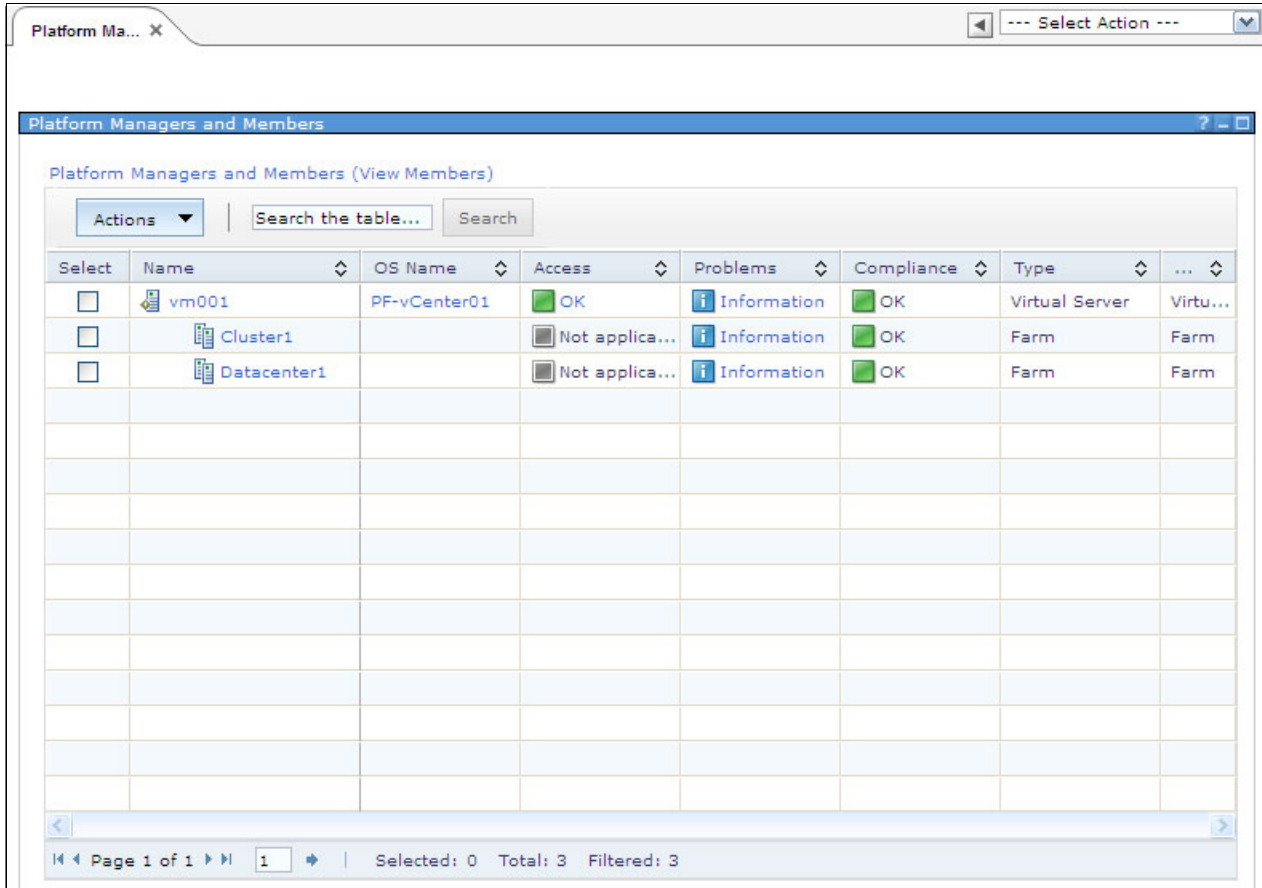

Figure 11-48 Platform Managers and Members window
1. In the IBM Flex System Manager web interface navigation area, expand **Inventory** and **Views** and click **Platform Managers and Members**, as shown in Figure 11-48. Observe the vCenter server and all discovered data center and cluster objects listed under it.